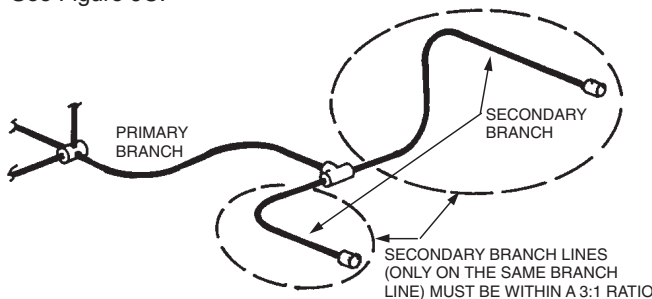

FIGURE 9C
- Unbalanced secondary branch line lengths must also be within a 3 to 1 ratio when they are located in the same branch line. See Figure 9C.